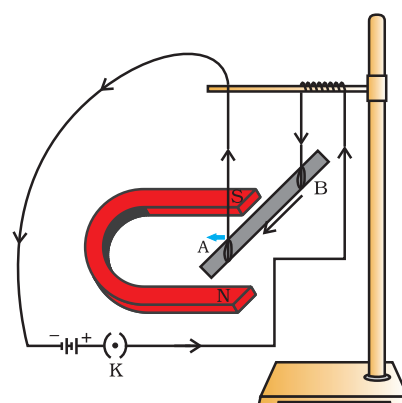

Figure 13.12
- Take a small aluminium rod AB (of about 5 cm). Using two connecting wires, suspend it horizontally from a stand, as shown in Fig. 13.12.
- Place a strong horse-shoe magnet in such a way that the rod lies between the two poles with the magnetic field directed upwards. For this put the north pole of the magnet vertically below and south pole vertically above the aluminium rod (Fig. 13.12).